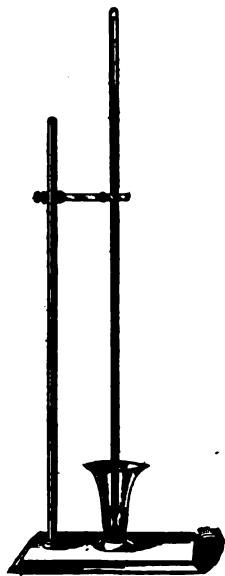

FIG. 4.
**11. Weight of Atmosphere.**—The statement has already been made that the atmosphere exerts a pressure, due to its weight, of about 14.7 pounds per square inch, and that it will consequently balance or support a column of mercury 30 inches high, or a column of water 34 feet high. This may readily be seen by taking a glass tube about 32 inches long, closed at one end, and filling it with mercury. Invert the tube, putting a finger over the open end, so as to prevent the mercury from running out, and place it in a cup of mercury, as shown in Fig. 4. The mercury in the tube will rise and fall a few times, and then come to rest at a height of about 30 inches
A column of water 1 inch square and 1 foot high weighs about .434 pound; if, therefore, a glass tube 35 feet long were filled with water and inverted in a manner similar to the mercury tube shown in Fig. 4, the upward pressure exerted by the atmosphere on the water in the tube would support a column of water  $\frac{14.7}{.434}$ , or 34 feet high, nearly.
**12. Vacuum.**—The space between the upper end of the tube and the mercury, Fig. 4, is called a **vacuum**, a term used to imply that the space is entirely empty, and contains no substance whatever—solid, liquid, or gaseous. If there were a gas of any kind there, no matter how small the quantity might be, it would expand, fill the space, and exert a downward pressure on the top of the mercury that would cause the column to fall and become shorter, according to the amount of gas (or air) present. This space would then be called a **partial vacuum**, since it would not be entirely devoid of matter. Although the height to which a fluid such as water or mercury will stand or rise in a tube depends on the completeness of the vacuum therein, it must not be supposed that the vacuum “sucks up” or raises the fluid. It is the pressure of the
atmosphere through the cock *d*. *S* is a glass tube more than 30 inches long and closed at one end, the same as in Fig. 4. This tube *S* has been filled with mercury, then inverted, and after that placed in the mercury *e*, as shown. Now, if the cock *d* is open, so that the vessel *z* is filled with air at atmospheric pressure, the pressure on top of the mercury will force the latter up the tube to a height of 30 inches. Suppose that the cock *d* is then closed, and part of the air pumped out of the vessel; the remaining air will exert less pressure on the mercury *e*, and, consequently, the column in the tube will fall down from 30 inches to a height corresponding to the pressure in the vessel. If still more air is pumped out, the height of the column will be lowered still more, and so on, until, if all the air were removed from vessel *z* and a perfect vacuum existed therein, the mercury in tube *S* would be on a level with the mercury *e*. To lower the mercury column from 30 to 29 inches, therefore, one-thirtieth of the pressure in the vessel must be removed; in other words, instead of having 30 inches of pressure\* in the vessel there will only be 29 inches of pressure and 1 inch of vacuum. When the column stands at 25 inches there will be 25 inches of pressure and 5 inches of vacuum; when the column falls to 20 inches there will be 20 inches of pressure and 10 inches of vacuum, and so on. It will thus be seen that the amount of vacuum in the vessel is expressed as the number of inches the column has fallen from its maximum height, 30 inches. Thus, the expression "18 inches of vacuum" means that the column has fallen 18 inches, and, therefore, only stands 30 — 18, or 12, inches high. For 28 inches of vacuum, the column stands 30 — 28, or 2, inches high.